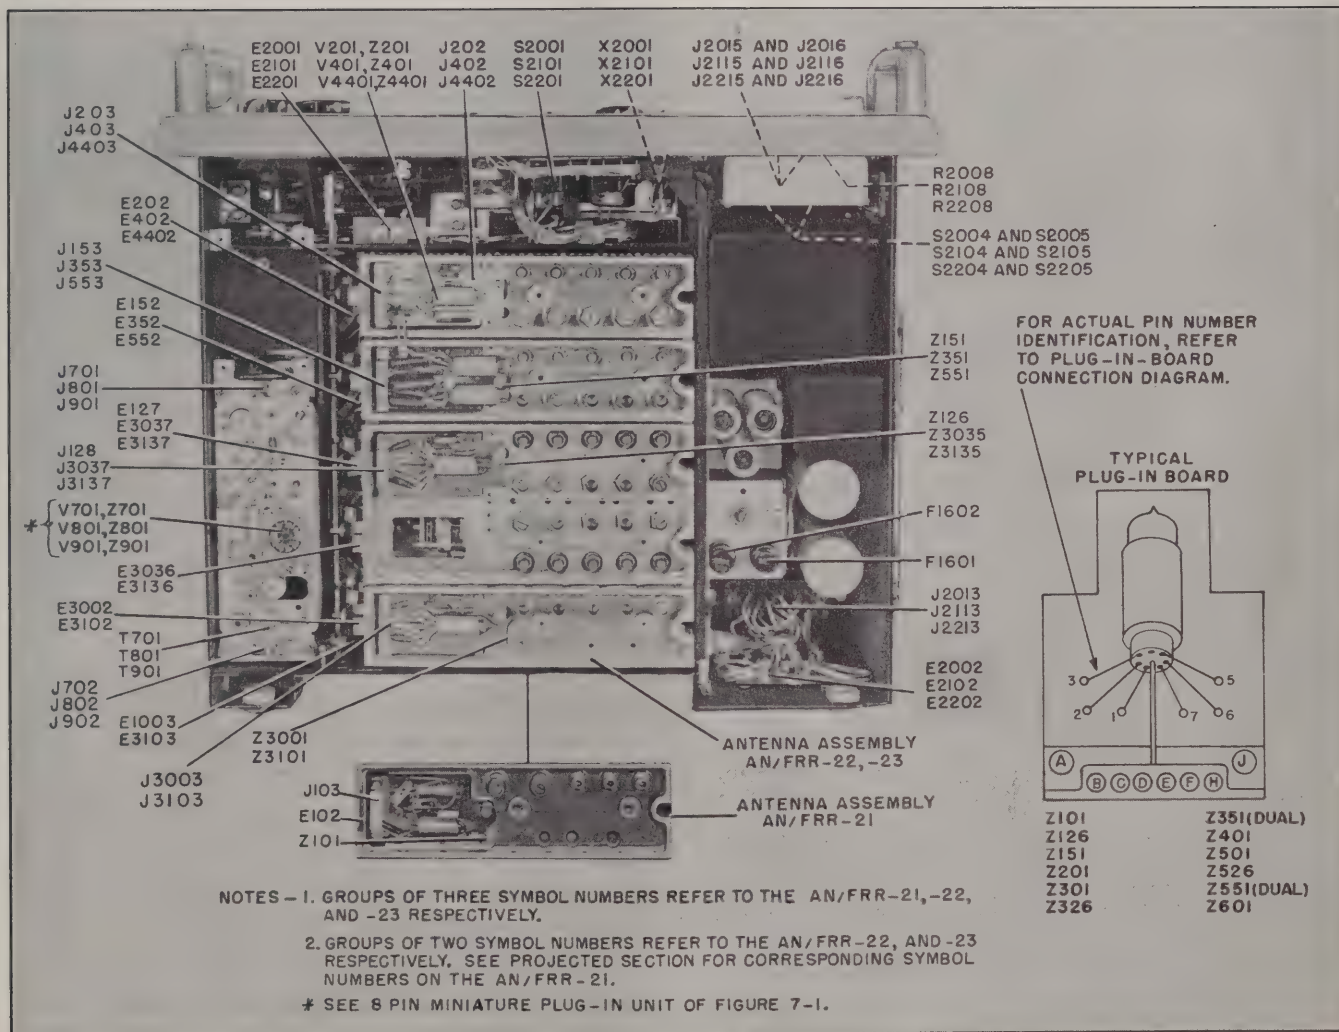

Figure 7-2. Stage Gain and Trouble Shooting Measurement Points, Bottom View
a. DIAL LIGHT AND FUSES.—Turn the POWER switch to ON and check the dial light. If the dial light is glowing, this indicates that the power input and power transformer T1601 primary circuits are operating. In this case follow with step *b* of this procedure. If the dial light is not glowing, switch the LAMPS control to the SPARE position; if the dial light still does not glow and the receiver is dead, then replace fuses F1601 and F1602 located on the bottom of the power supply assembly, as shown in figure 7-2. If this does not correct the trouble, then see paragraph 3 (*a*) of this Section.
a. **A-C POWER SUPPLY.**—(Dial light not glowing, pilot light not glowing, as per paragraph 2a.) After fuses have been eliminated as a possible source of trouble, remove the test cable connector from the rear of the receiver chassis and check between pins 8 and 10 of the test cable connector for presence of a-c line voltage by use of a voltmeter similar to item 1 of Table 7-1. If a-c line voltage is present at these points, the trouble lies either in the chassis interconnections, power switch (S2001 of AN/FRR-21, S2101 of AN/FRR-22, and S2201 of AN/FRR-23), or the power transformer (T1601) primary (pins 1, 2, 3, 4, or 6) or secondary filament circuits (pins 10 to 14). See step (2) for further procedures. If a-c line voltage is not present at these points, the trouble lies either in the filter assembly, the test cable (CG-1101/FRR), or the power cable connecting the receiver to the source of a-c power. See step (1) for further procedures.
(1) Check to see if there is line voltage supplying the receiver. If such is the case, remove the receiver from the cabinet (as described in Section 3 paragraph 2a), and check for presence of line voltage at pins 8 and 10 of jack J2014 of the AN/FRR-21, J2114 of the AN/FRR-22, or J2214 of the AN/FRR-23, located at the back wall of the receiver cabinet, see figure 7-2. If line voltage is present at these points, then the trouble lies in the test cable assembly (CG-1101/FRR). Check the continuity of the cable to find which of the power leads (pin 8 or 10) is at fault, then correct trouble. If line voltage is not present at this point, then remove the plug from power input receptacle at the back of the receiver cabinet J1704 of the AN/FRR-21, J4004 of the AN/FRR-22 and -23, and check for presence of line voltage between pins B and C of the power cable. If line voltage is not present on the power cable, then the fault lies in the incoming line. Turn power off and check continuity of the power cable until trouble is found. If line voltage is present on the power cable, then the fault lies in the filter assembly. Remove the
e. R-F SYSTEM.—(No phone output, OUTPUT meter not indicating, TUNING meter not indicating when receiver is tuned on all positions of the RECEPTION control and the second i-f has been eliminated as the possible cause of trouble by procedures contained in paragraph 3d.) The procedure given in the following steps (1) to (7) is a method of localizing the trouble to the filter, antenna, r-f, mixer, oscillator, or first i-f assemblies and their interconnecting lines.
(1) Connect a signal generator, such as item 3 of Table 7-1, to the mixer terminal (E152 on AN/FRR-21, E352 on AN/FRR-22, and E552 on AN/FRR-23) of the mixer assembly. These terminals protrude from the bottom of the assembly and are connected to the tuning capacitor through metal straps. The assembly cover will not have to be removed, but make certain to connect to the right terminal. See figure 7-2 for location of this terminal.
(2) Set the RECEPTION control to A1 SHARP and adjust the BFO for a beat note of 1 kc. See paragraph 14f (2), steps (a) and (b) for adjusting the BFO.
(3) Set the signal generator to have an unmodulated output at a frequency of 30 kc on the AN/FRR-21 receiver, 0.5 mc on the AN/FRR-22 receiver, and 4.0 mc on the AN/FRR-23 receiver.
(4) Set the band selector to band 1. (The tuning dial to correspond to the signal generator frequency.)
(5) Set the signal generator output level to obtain a 0 db reading on the OUTPUT meter.
(6) Check the signal generator output level. This should be 120 uv. Note this reading and see step (7) for further procedures.
(7) If the signal generator output level required to produce 0 db on the output meter is within 30% of 120 uv, the trouble can then be assumed to lie in the filter, antenna, or r-f assembly, and the interconnections associated with these assemblies. If the signal generator output level required to produce 0 db on the output meter is not within 30% of 120 uv, the trouble can be assumed to lie in the mixer, oscillator, or first i-f assembly and the interconnections associated with these assemblies.